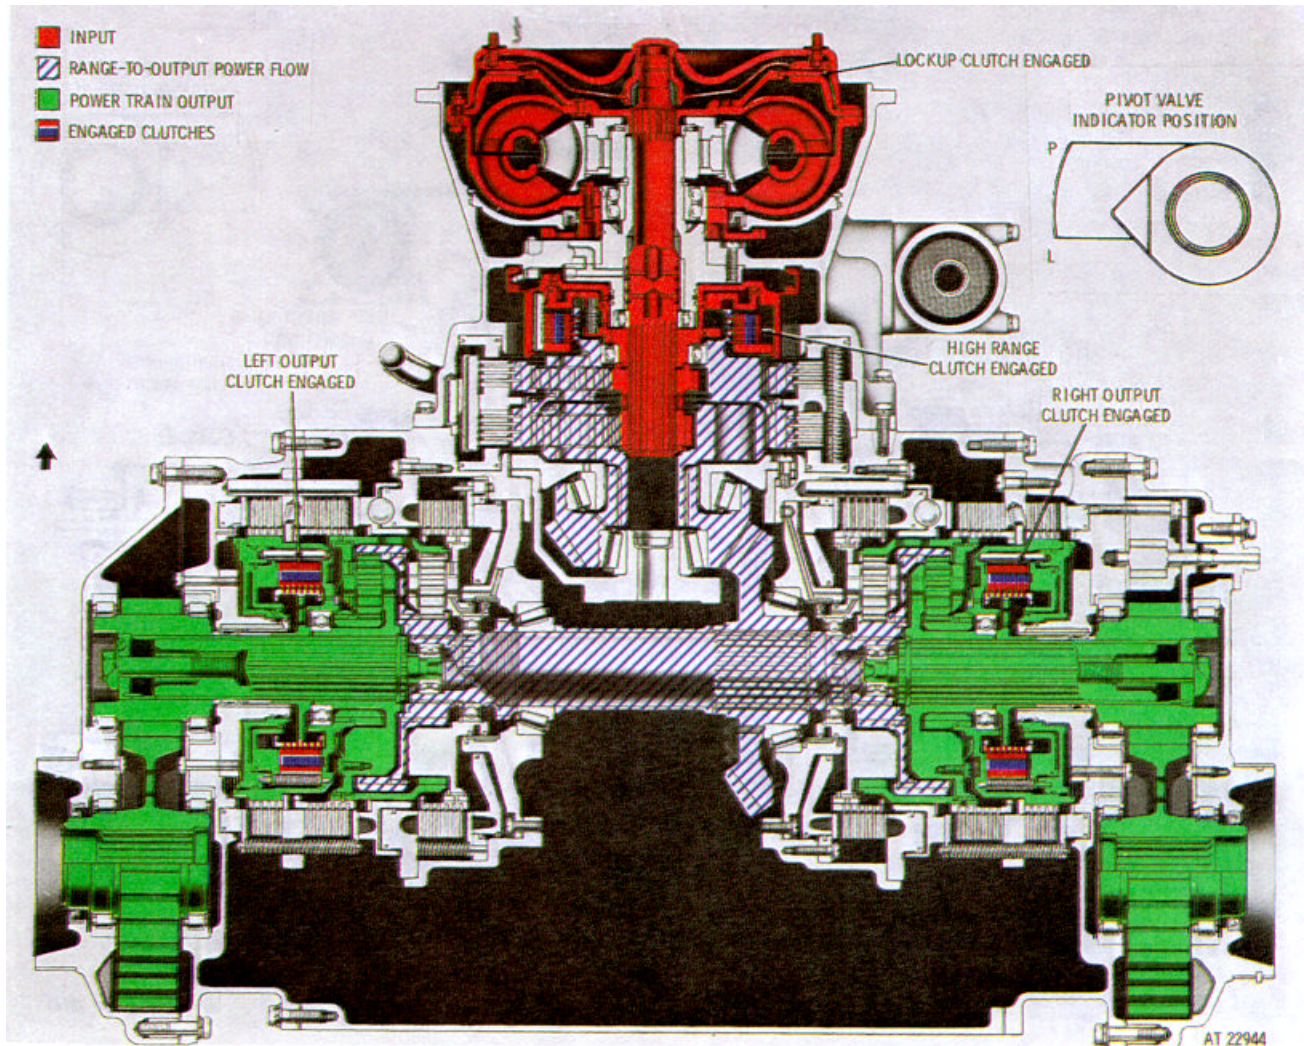

Figure 2-18. Fourth gear, straight travel operation-torque path.
(2) The total mechanical speed reduction ratio from the engine through the transmission outputs is 7.206 to 1. At output stall, the total torque ratio available (output-to-engine) is (2.6×7.206) 18.736 to 1.
d. Fourth Gear--Straight Travel (fig. 2-18).